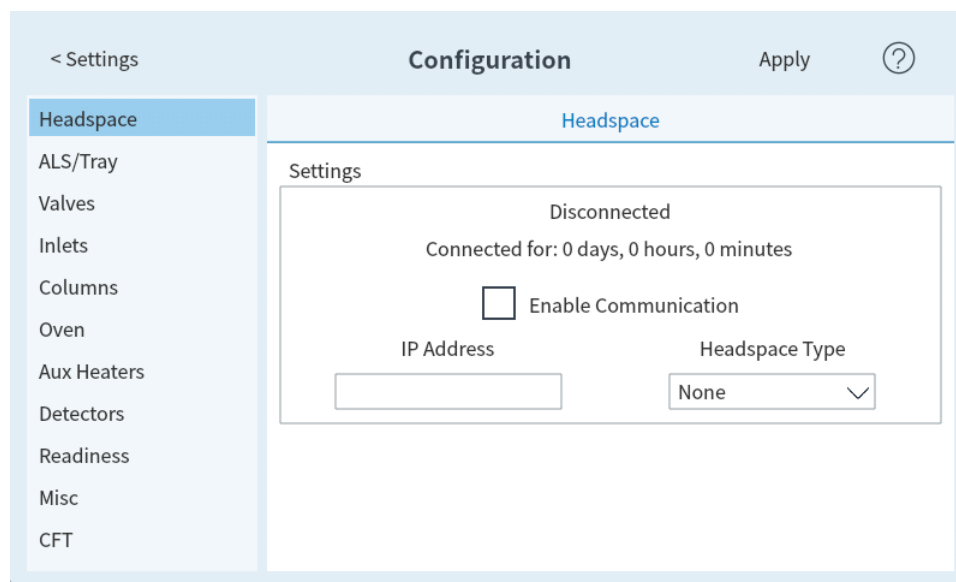

Figure 69. Headspace settings page
1. Select **Settings > Configuration > Headspace**. See Figure 69.